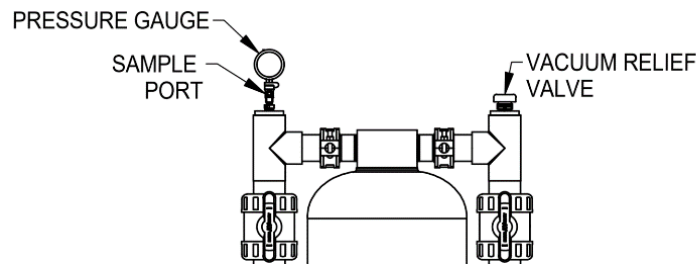

Figure 3-2 WQ-AS AquaSolve Header Connections
10. Use Teflon tape and install the AquaSolve inlet sample port assembly on the inlet side of the AquaSolve tank (see Figure 3-2).
- Use Teflon tape and install AquaSolve vacuum relief valve on the outlet side of the AquaSolve tank (see Figure 3-2).